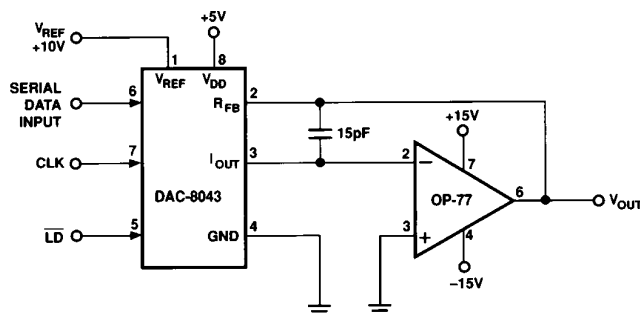

Figure 5. Unipolar Operation with High Accuracy Op Amp (2-Quadrant)
1. Phase compensation (see Figures 5 and 6).
In most applications, linearity depends upon the potential of  $I_{OUT}$  and GND (pins 3 and 4) being exactly equal to each other. In most applications, the DAC is connected to an external op amp with its noninverting input tied to ground (see Figures 5 and 6). The amplifier selected should have a low input bias current and low drift over temperature. The amplifier's input offset voltage should be nulled to less than +200  $\mu$ V (less than 10% of 1 LSB).
The circuit shown in Figures 5 and 6 may be used with an ac or dc reference voltage. The circuit's output will range between 0 V and approximately  $-V_{REF}$  (4095/4096) depending upon the digital input code. The relationship between the digital input and
| Digital InputMSB | LSB       | Nominal Analog Output( $V_{OUT}$ as shown in Figures 5 and 6) |
1Nominal full scale for the circuits of Figures 5 and 6 is given by
2Nominal LSB magnitude for the circuits of Figures 5 and 6 is given by
The transfer function for the DAC8043 connected in the multiplying mode as shown in Figures 5, 6 and 7 is: